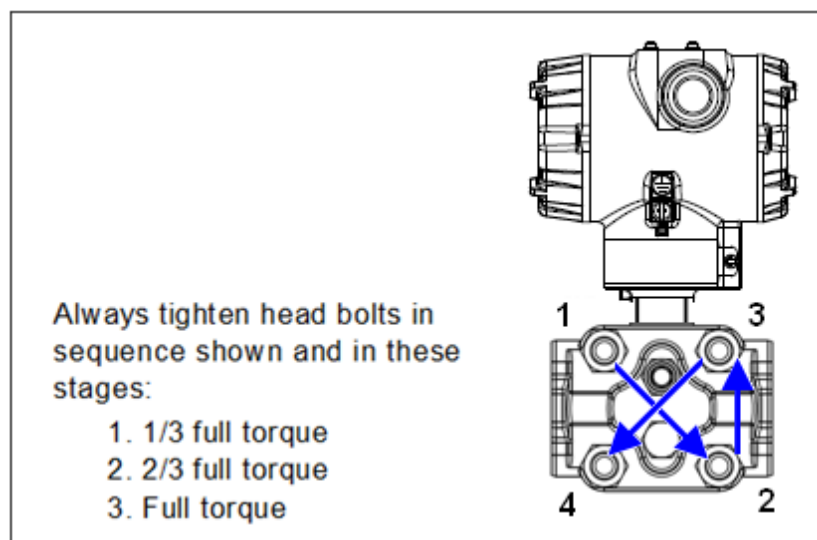

Figure 67 – ST 700 Basic Transmitter - Head Bolt Tightening Sequence
16. Use a torque wrench to gradually tighten nuts to torque rating in sequence shown in Figure 67. Tighten head bolts in stages of 1/3 full torque, 2/3 full torque, and then full torque as per Table 40.